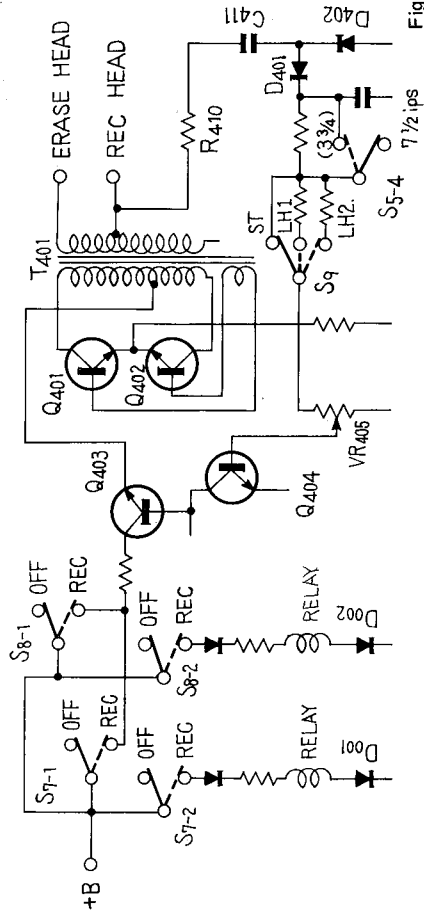

Fig. 3
- When operating the REC switches (S7 and S8), i.e., the stereo recording, the +B voltage is fed to the oscillator circuit and the current flows to the light-emitting diodes (D001, D002) through relays simultaneously and recording is indicated (Fig. 3).
3.3 OSCILLATOR CIRCUIT (Fig. 3)